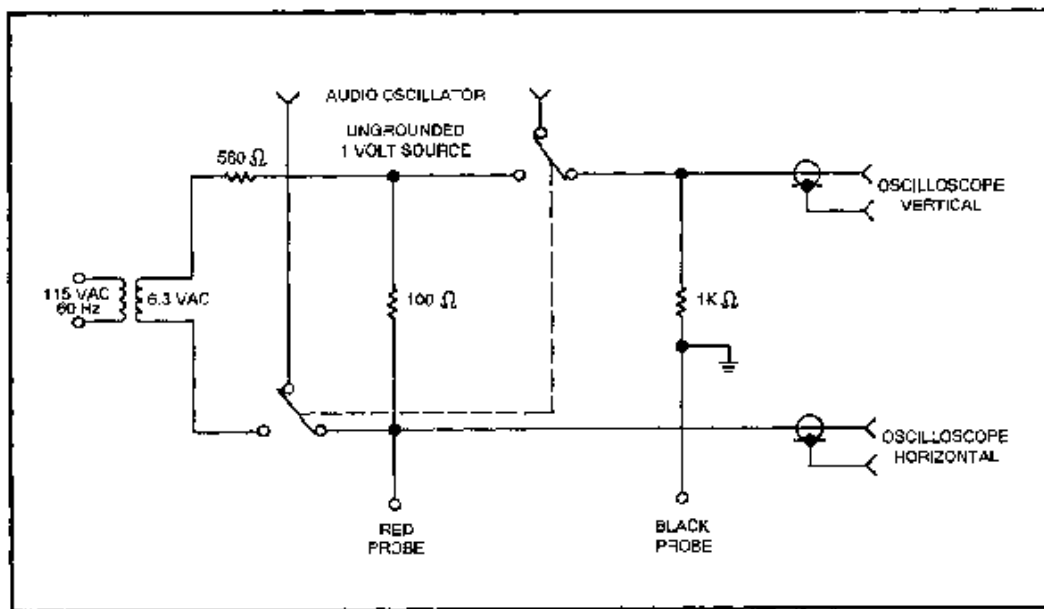

Figure 1-42.—Octopus schematic diagram (typical).
THE OCTOPUS.—The octopus is a small, homemade test set used with an oscilloscope to check electronic components *in circuit*. It can be made easily and cheaply using parts from the supply system. Figure 1-42 is a schematic of an octopus that uses either a 6.3-volt filament transformer or an audio oscillator for input power. The benefits of *in circuit* troubleshooting with an octopus are (1) reduced maintenance time, (2) less chance of damage from soldering-iron heat, and (3) a visual display of the component's condition.